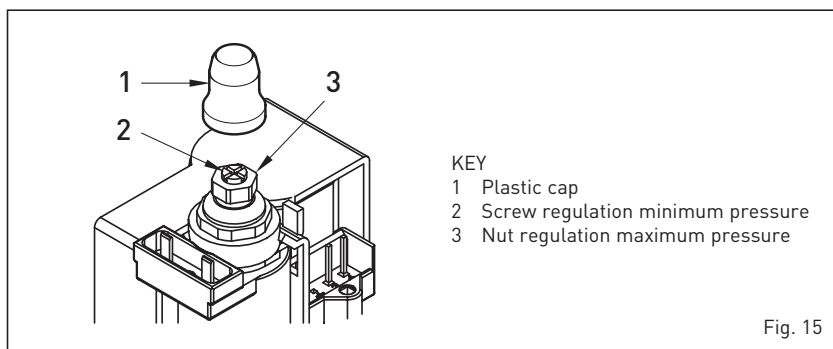

Fig. 15
In order to carry out the setting of the maximum proceed in the following way (fig. 15):
- Connect a differential manometer as shown in fig. 15).
- Remove the plastic cap of the modulator (1).
- Using a $\varnothing 10$ wrench turn the nut (3) to find the maximum pressure as shown